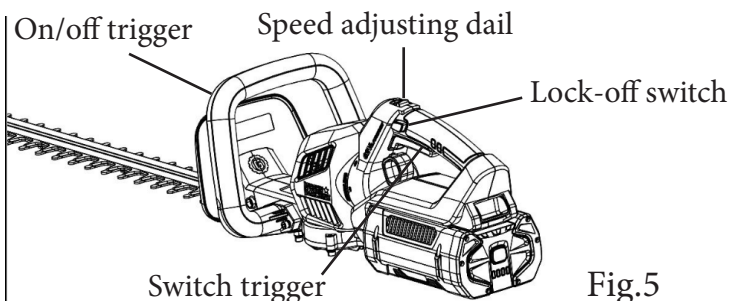

Fig.5
- Press and hold the lock-off switch, then squeeze both triggers to start the hedge trimmer. (Fig.5)
- Use the speed-adjust dial to find the correct speed for the job. (Fig.5)
Once the job is complete, you can easily switch your Cordless Trimmer off. Simply move the hedge trimmer away from the cutting area and release both triggers. (Fig.5)